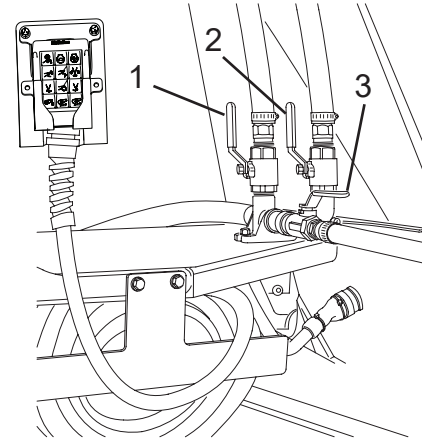

Figure 91
5. Open the upper wash-out valve (Figure 91, Item 1), “Add Water” valve (Figure 91, Item 2), or lower wash-out valve (Figure 91, Item 3) to activate the desired function.